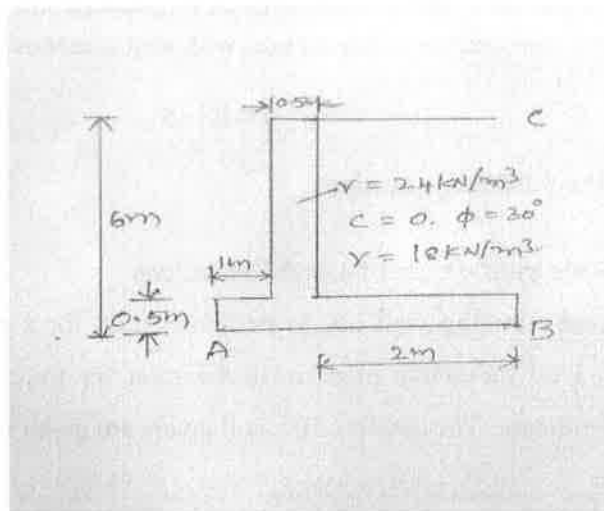

Figure-1
- b) Check the stability of cantilever wall shown below against sliding failure and overturning failure. Use Rankine's theory (figure-1)?